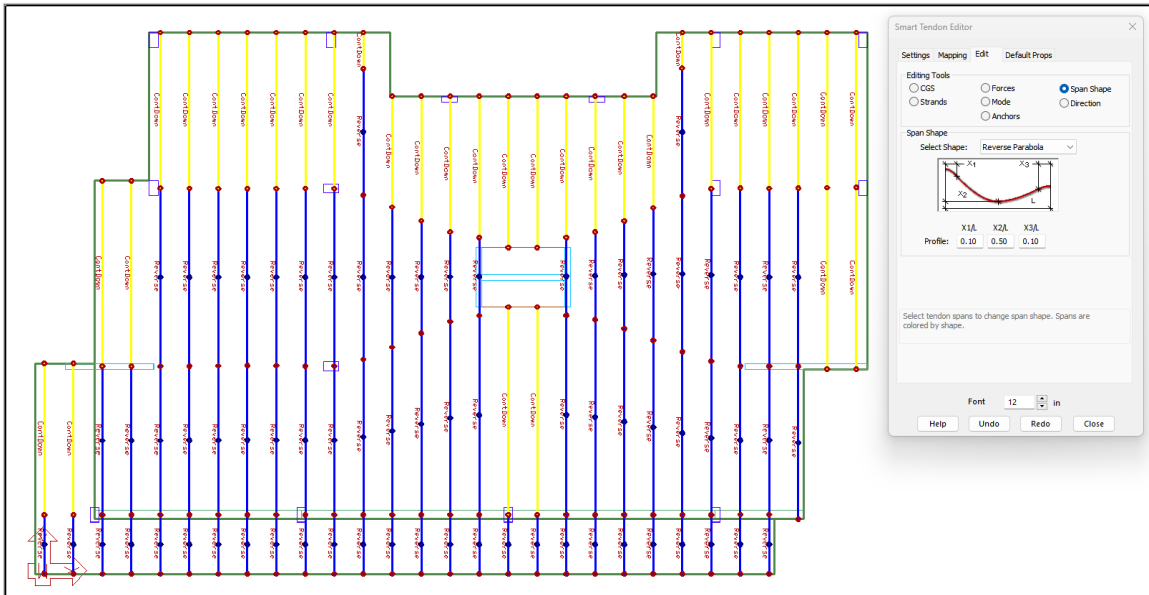

FIGURE 9-77
- Your model should now look like **FIGURE 9-77**.